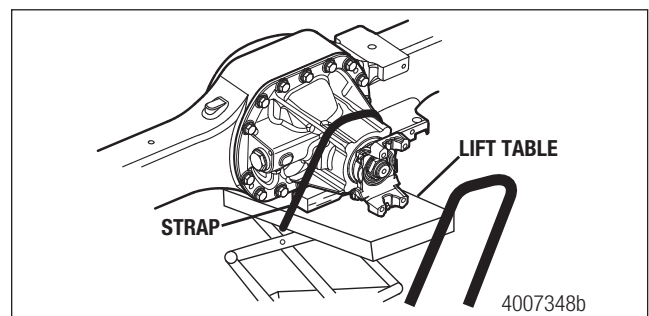

Figure 7.5
8. Place a lift table, transmission jack or other suitable lifting device under the differential carrier to support the assembly. Secure the carrier with straps. Figure 7.5.